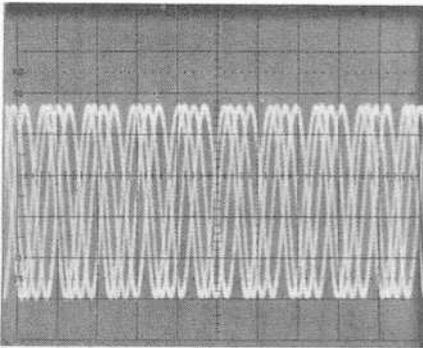

Fig. 4. Out-of-sync scope produces this meaningless pattern.
- Note: See Fig. 4 for information on ordering pc boards.
Fig. 4. Etching and drilling guide (right) and component layout (above) for main pc board. Note: etched and drilled pc boards for this and Fig. 5 are available from Select Circuits, 1411 Lonsdale Rd, Columbus, OH 43227 for \$18.95 a pair.
**Construction.** Assembly of the tester is not critical. However, the use of pc boards will simplify the task. Etching and drilling guides for the main and programming boards are shown in Figs. 4, 5, and 6. The main pc board contains most tester components mounted in a conventional manner. It in turn is mounted on four 1/4-inch (6.4-mm) No. 4 standoffs behind the front panel of a molded plastic box. Holes are cut in the front panel for the test socket, the sixteen indicator
the vertical frequency. If this is not done, and if the starts of successive sweep ramps occur at different points on the input signal (positive peak, negative peak, start of positive alternation, etc.), the jumbled pattern shown in Fig. 4 results. In these "recurrent-sweep" scopes, the sweep signal voltage is generated by a sawtooth oscillator that is usually synchronized to the input signal by feeding it a sample of the input signal from the vertical circuits.